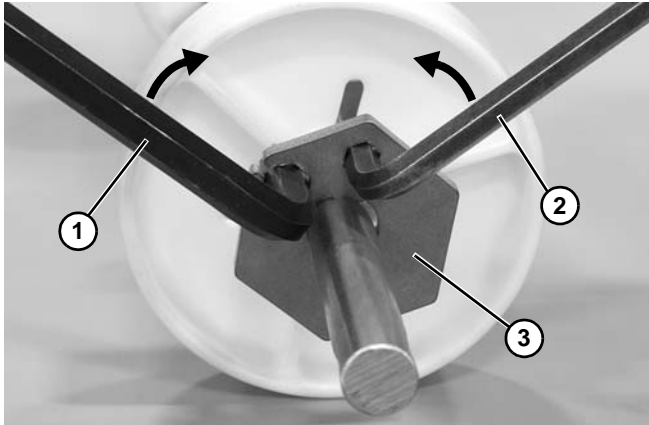

Figure 127
5. Insert an 8 mm (**Figure 127, item 1**) and 6 mm (**Figure 127, item 2**) hex wrench into the retainer plate.
6. Move wrenches toward each other to unlock the retainer plate (**Figure 127, item 3**) and remove from the shaft.